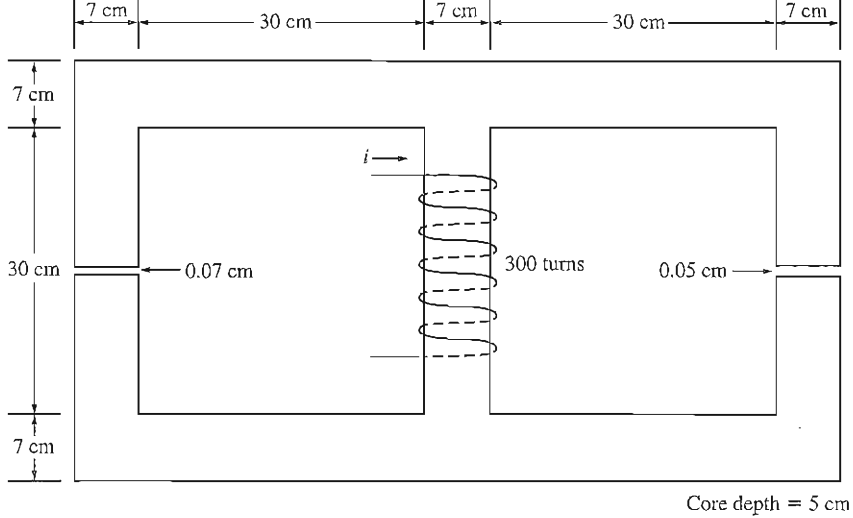

FIGURE P1-3
- 1-6. A ferromagnetic core with a relative permeability of 1500 is shown in Figure P1-3. The dimensions are as shown in the diagram, and the depth of the core is 5 cm . The air gaps on the left and right sides of the core are 0.050 and 0.070 cm , respectively. Because of fringing effects, the effective area of the air gaps is 5 percent larger than their physical size. If there are 300 turns in the coil wrapped around the center leg of the core and if the current in the coil is 1.0 A , what are the flux values for the left, center, and right legs of the core? What is the flux density in each air gap?